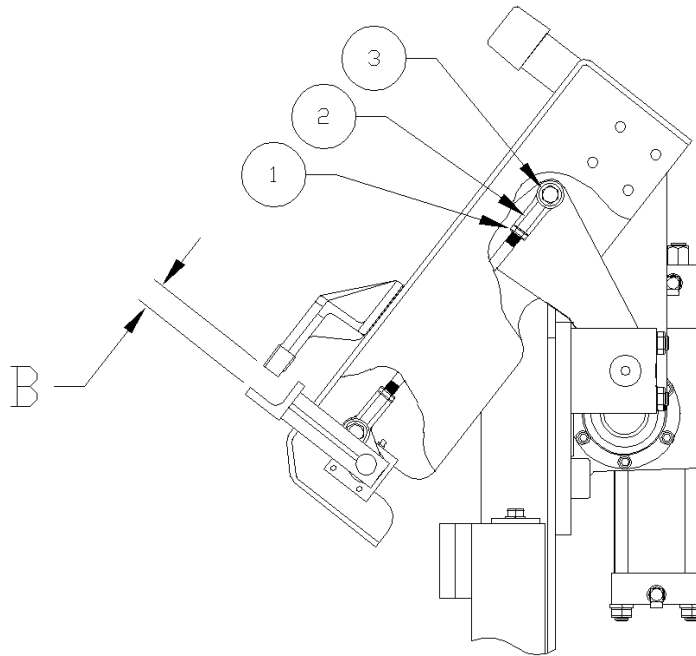

figure O-2
The vertical and rotational motions of the cart lifter are controlled with the use of a dual hand valve. Moving one of the handles on the dual hand valve “UP” will cause the lifter to perform the vertical extend stage (*figure O-2*), then moving the other handle “UP” will cause the lifter to perform the actuator dump stage. Moving the same handle “DOWN” will cause the lifter to perform the actuator reverse stage, then moving the other handle “DOWN” will cause the lifter to perform the vertical retract stage.
Check the distance (**B**) (*figure O-2*) between the top of the finger bar and the inside of the clamp bar when the lifter faceplate is in the **FULL DUMP** position. Maintain this dimension at approximately $7/8$ ” for the proper “locking” of the cart to the lifter. To adjust the setting, loosen the jam nuts (1) on the spherical rod ends (2). Remove the bolts (3) that hold the rod ends to the clamp bar. Screw the rod ends in or out as required to obtain the correct dimension at (**B**). Replace the bolts (3) and tighten the jam nuts (1).
CAUTION: *The distance in figure O-2 is an arbitrary figure based on information furnished by cart manufacturers. It is the responsibility of the owner / operator of this equipment to adjust these dimensions to be compatible with his specific application.*